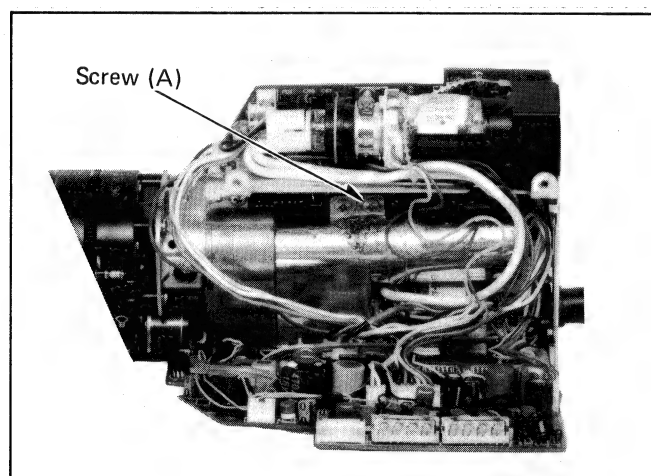

Fig. 3 Right Side View
- 3-2. Disconnect a connector (P602). Unscrew a screw (A) (see Fig. 3)